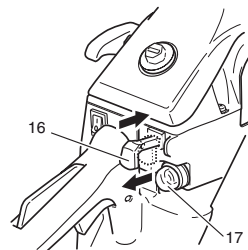

Fig. 12
*Push priming bulb (17) several times so that fuel flows through bulb into carburetor. (Fig. 12)
2. Pull the choke lever (16) to chocked position (Fig. 12). This will automatically lock the throttle in starting position.
4. When you hear first ignition, return the choke to run position. (Fig. 12)